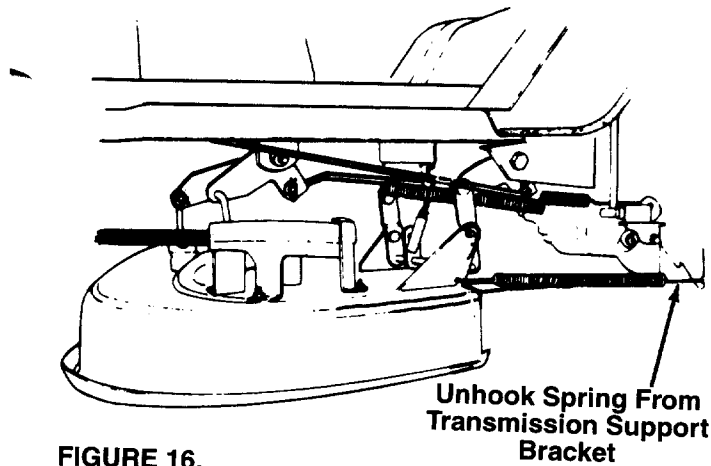

FIGURE 16.
- Disconnect the spring from the left rear transmission support bracket. See figure 16.